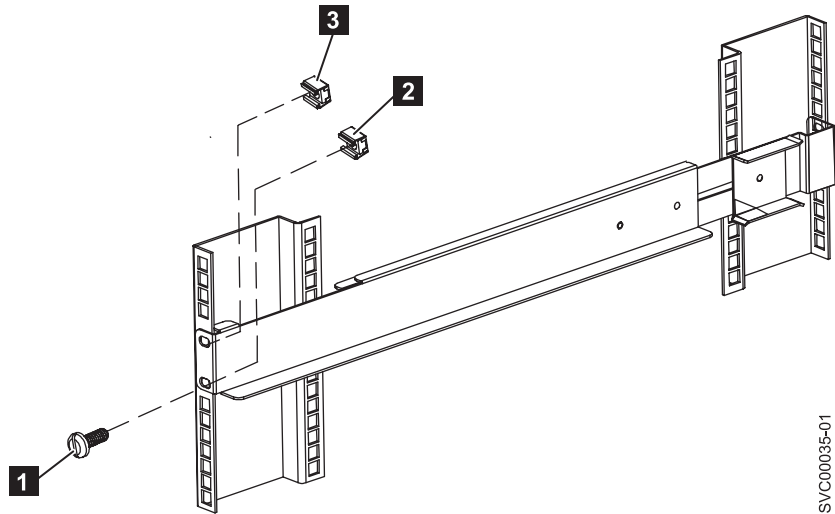

Figure 11. Securing the front rail on the 2145 UPS-1U
7. Install two clip nuts (**2** and **3** in Figure 11 on page 17) to the front of the rack, then attach the rail using just one M6 × 10 screw in the bottom mounting hole **1**.